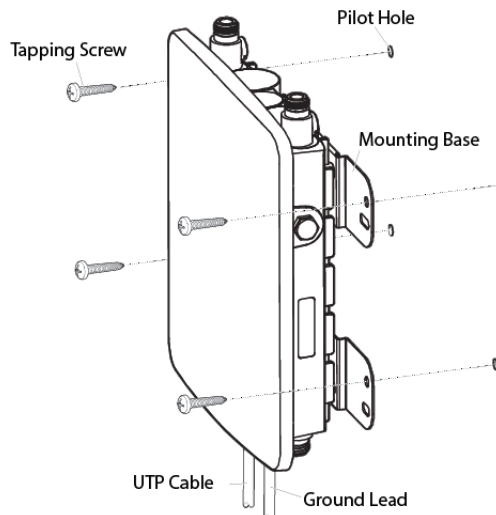

Figure 17. Installing to the Wall Using Tapping Screws
4. Drive the tapping screws into the holes made in Step 2 to install the access point. See Figure 17 on page 48.